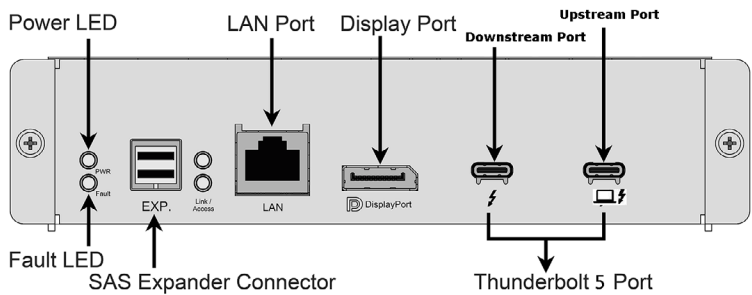

Figure 2-7. Rear View of ARC-8050T5U-12R/16R/4R RAID Controller
There are a variety of status conditions that cause the RAID storage panel monitoring LED to light. The front panel LCD comes with three (3) status-indicating LEDs. The LEDs on the front panel are defined, from top to bottom, Power, Busy, and Caution, as shown in Figure 2-7.